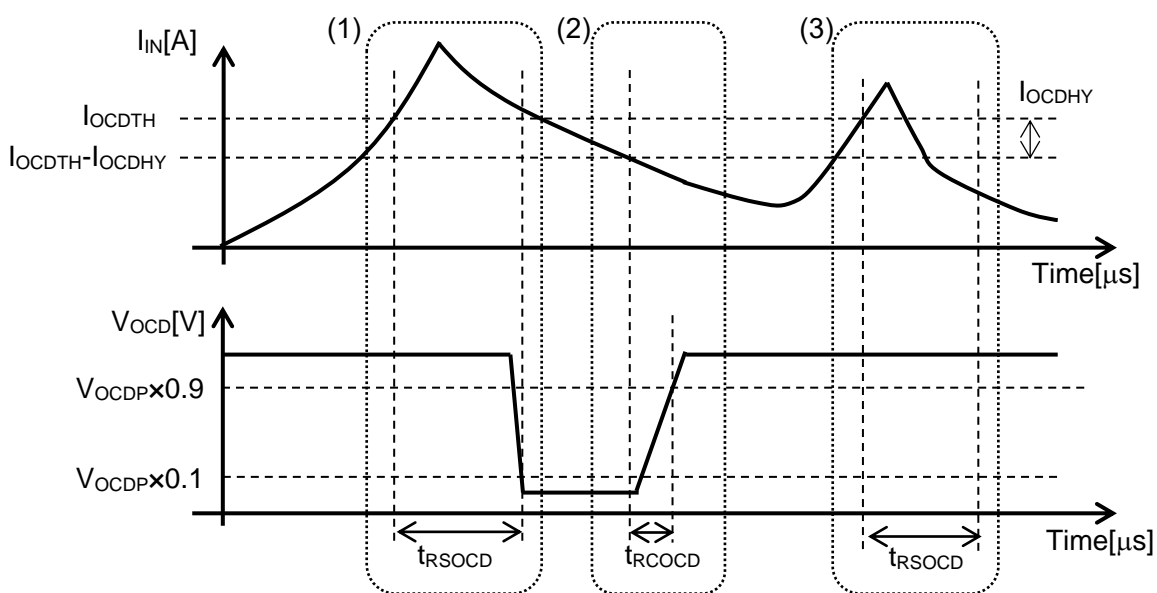

Figure 6. Overcurrent Detection Function of CZ-3AG6
10.4. Overcurrent Detection Function is operated as below. (See figure 6.)